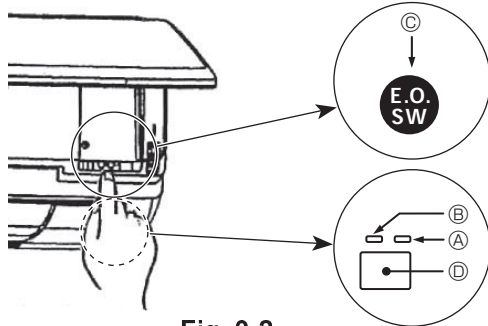

Fig. 9-2
- To stop operation, press the button (D) or the button (C) for more than 2 seconds.
[Fig.9-2] (A) DEFROST/STAND BY lamp (Orange)